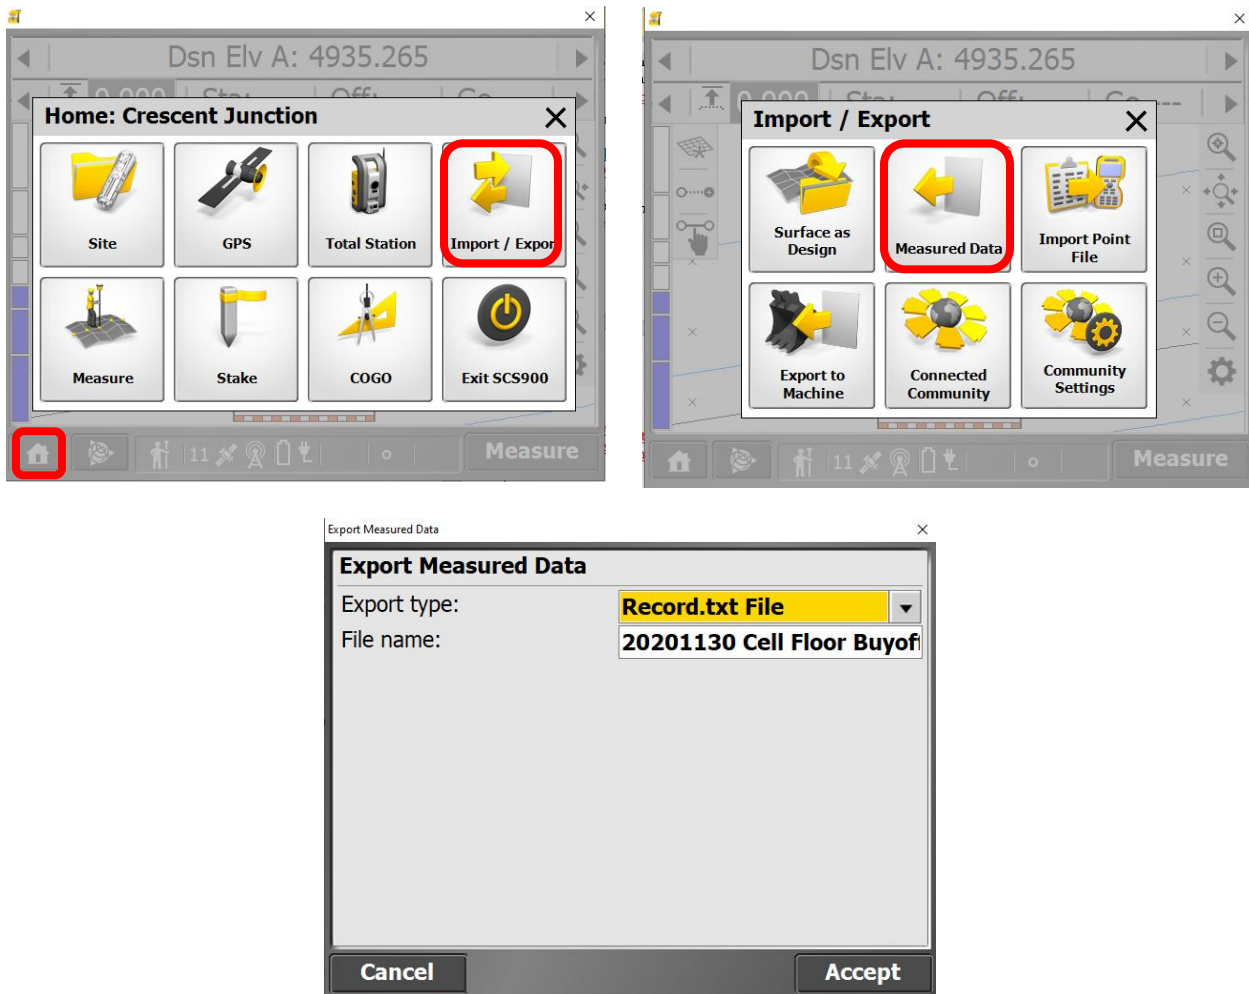

Figure 10. Export Topo Data
Step10: With the grade verification and topo data collected, the next step is to export the data for use in the office (Figure 10). Hit the Home Key, then Import / Export. Then Export a “Record.txt” File.